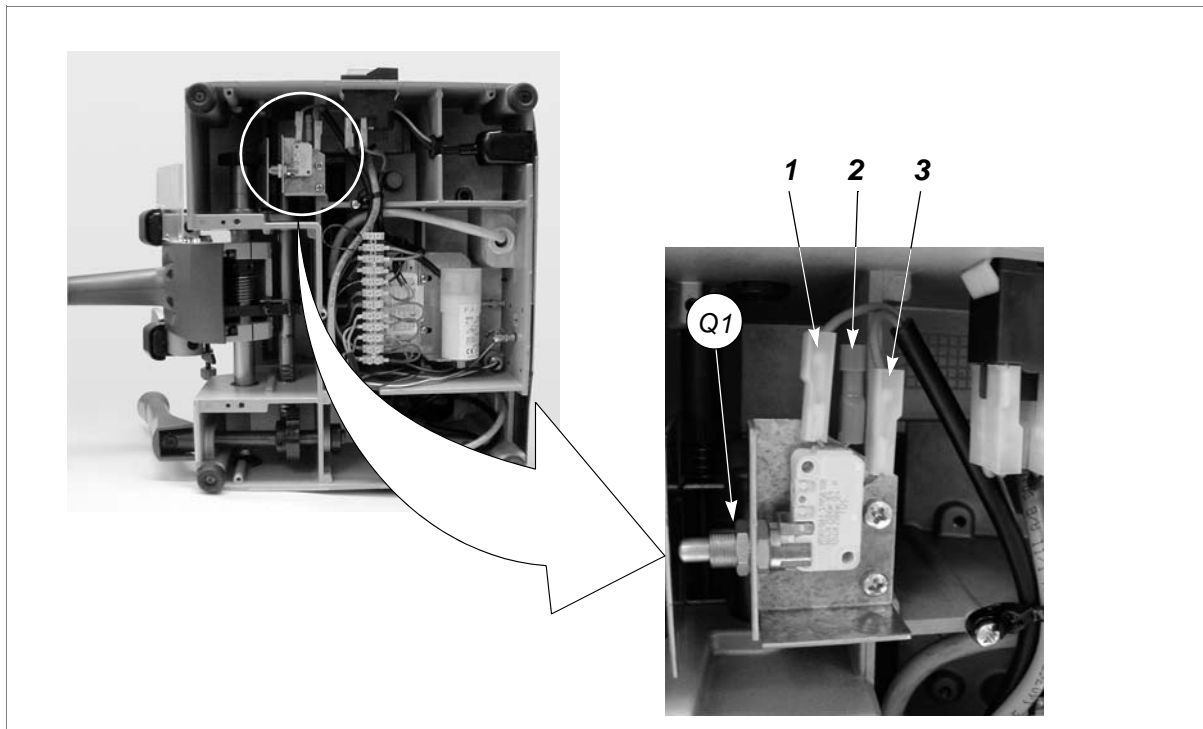

Fig. 34
- 4) Loosen the nut (Q1) and remove the microswitch (fig.34).